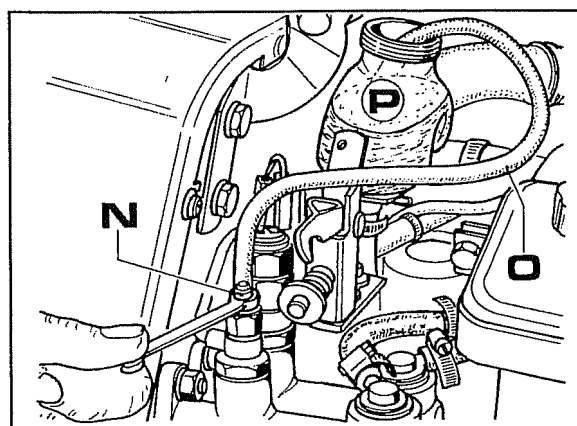

Fig. 3
3. To bleed the pumps, insert a transparent tube (**O** Fig.3). between the reservoir **P** Fig.3 and the bleed screw **N**. Slacken off the bleed screw, press the brake pedal (paired) repeatedly until you do not see any air bubbles in the transparent tube. Tighten back the bleed screw.